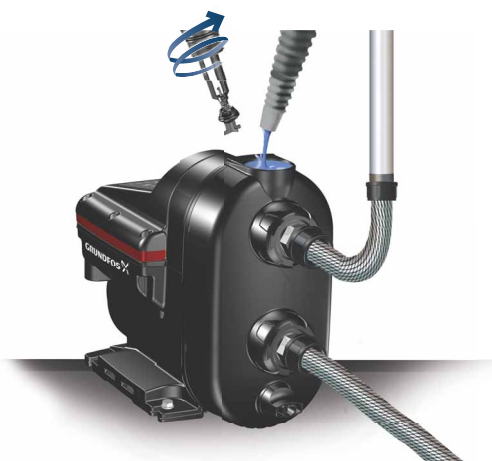

Fig. 9 Priming the pump
1. Unscrew the priming plug and pour minimum 1.7 litres (0.45 gallons) of water into the pump housing. See fig. 9.